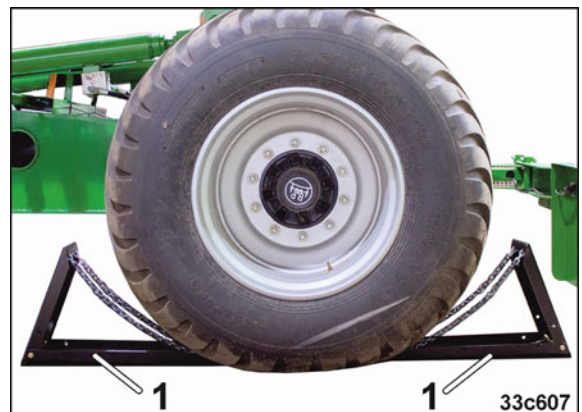

Fig. 137
10. Secure the implement wheels with two wheel chocks (Fig. 137/1)